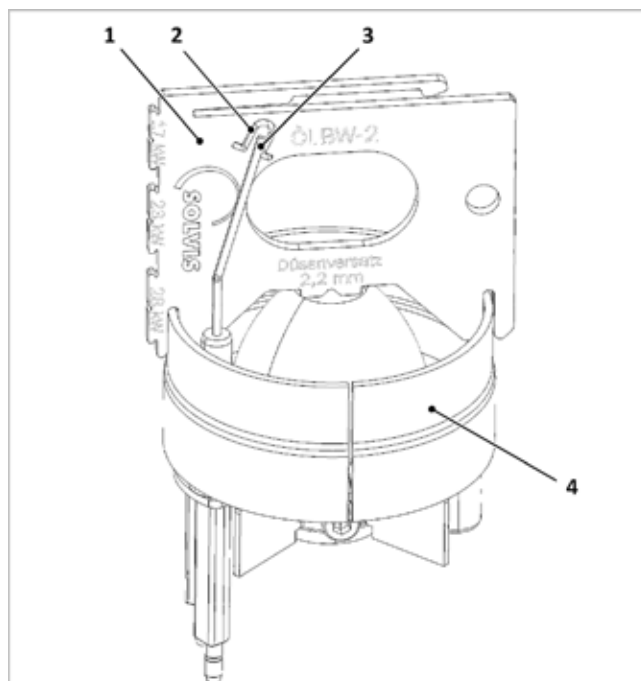

Fig. 123: Check the ignition electrodes
1. Check the position of the electrodes (3) as shown in → fig. 123 and correct by bending them, if necessary.
2. Check the minimum length. The lower end of the control window (2) of the setting gauge specifies the minimum length of the ignition electrodes. If the electrodes are only slightly longer, they should be replaced.